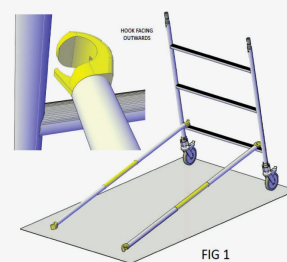

FIG 1
- Attach two horizontal braces (yellow) internally to one of the frames uprights, just above the first rung with the snap hook facing outwards. The frame is now self-supporting – See Fig. 1.
Note: horizontal brace (yellow) must always be installed facing outwards as per Fig. 1.